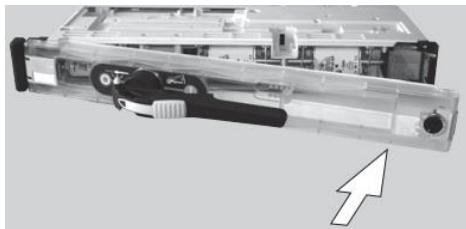

Figura 11 / Fig: 11 [picture source: Jean Müller]
- Cerrar la tapa frontal (Figura 11)